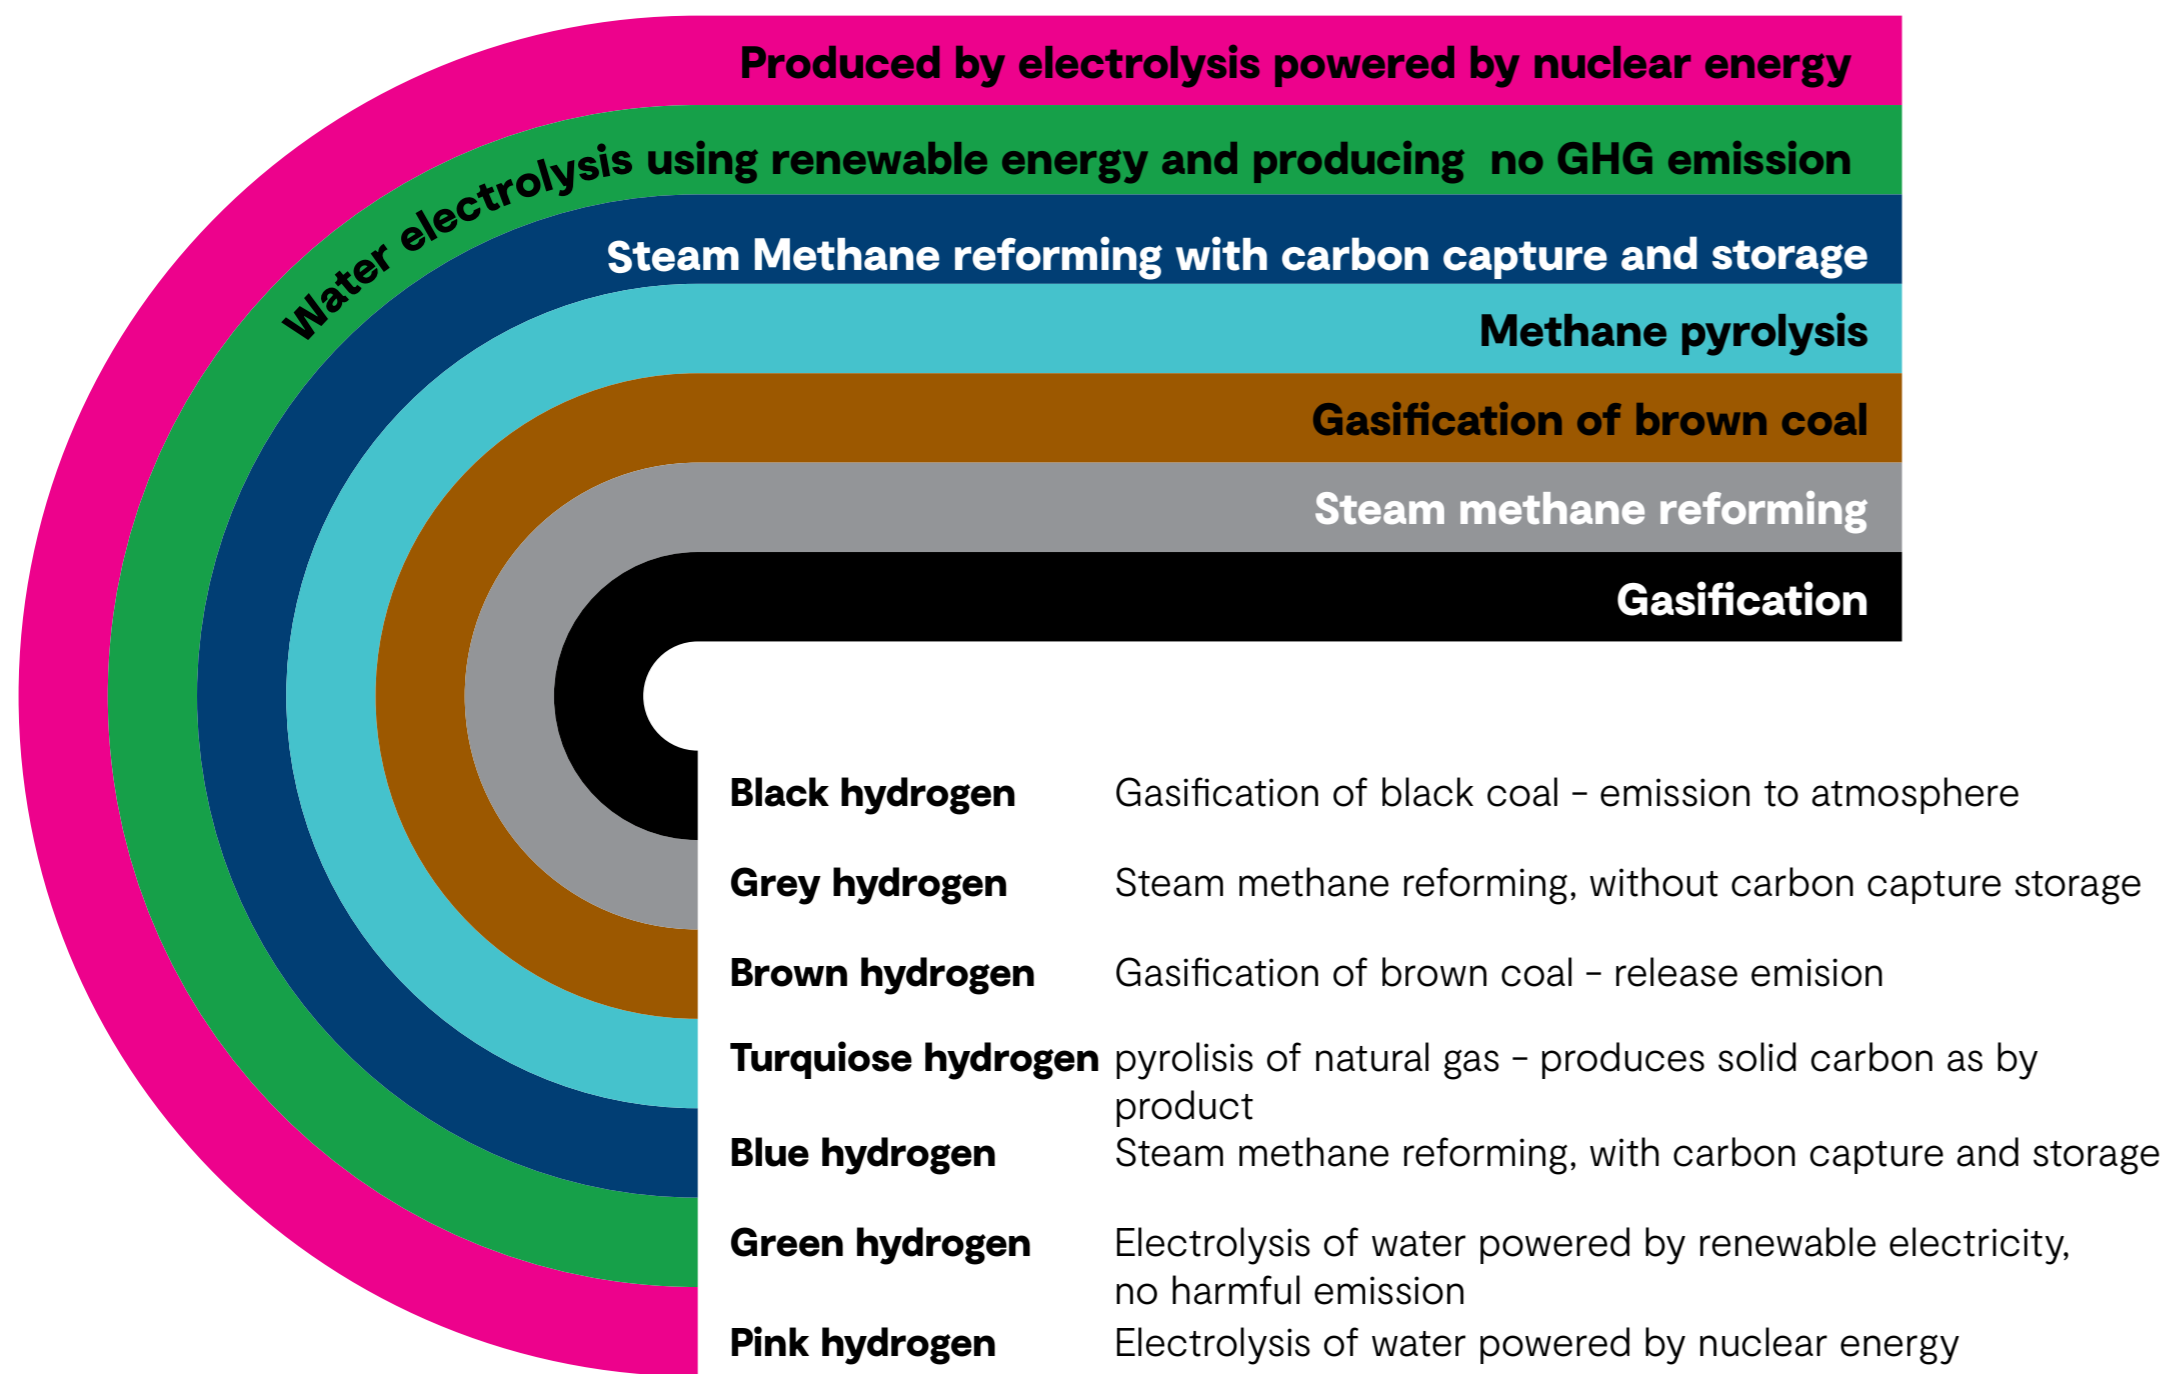

Figure 1: Hydrogen colours associated with the production method used
- Hydrogen and water sectors will need to take an integrated approach and consider water within each "colour" of hydrogen production, as outlined in Figure 1